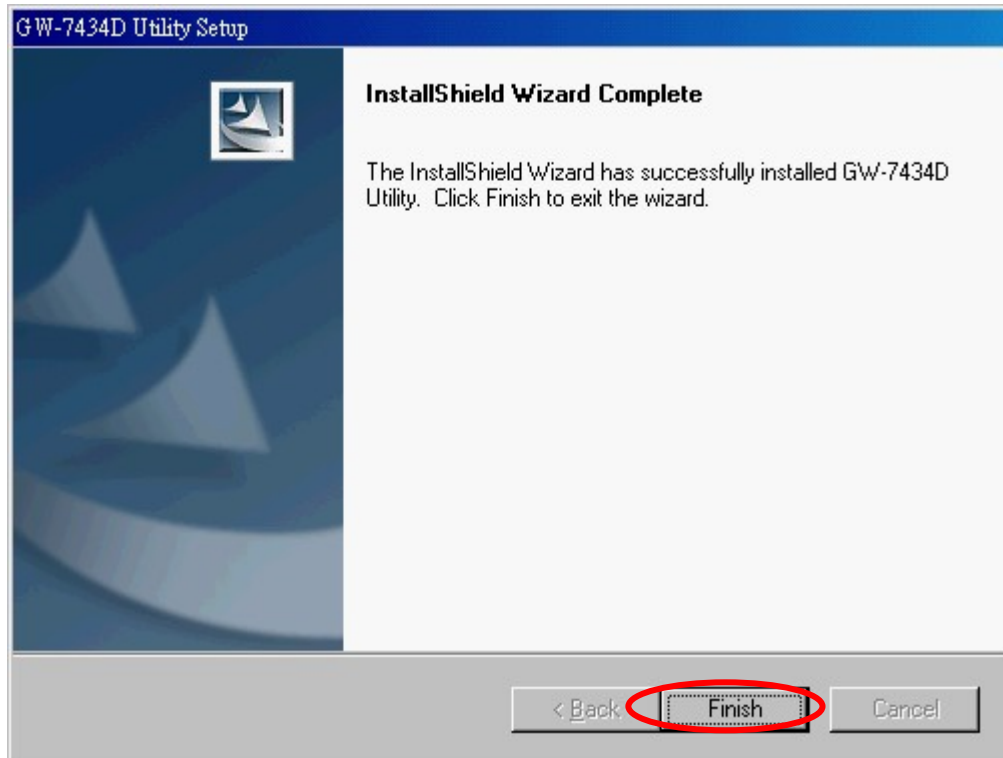

Figure 5-5: “Successful Completion of the Installation” dialog
Step 6: Click “Install” button and start to install the GW-7434D Utility to the system. After finishing the process, a “Complete” window will pop up to prompt users that the successful completion of the installation. And click “Finish” button to exit. See figure 5-5.